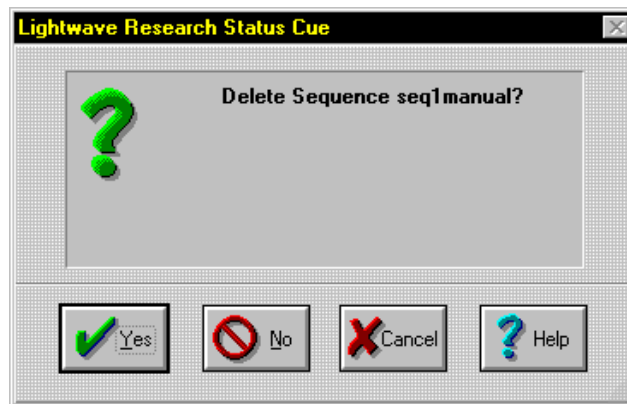

Figure 6.11. Delete Sequence Confirmation Box
3. Click the Sequence to remove and click the **OK** button. This brings up the **Delete Sequence** confirmation box. Refer to Figure 6.11.